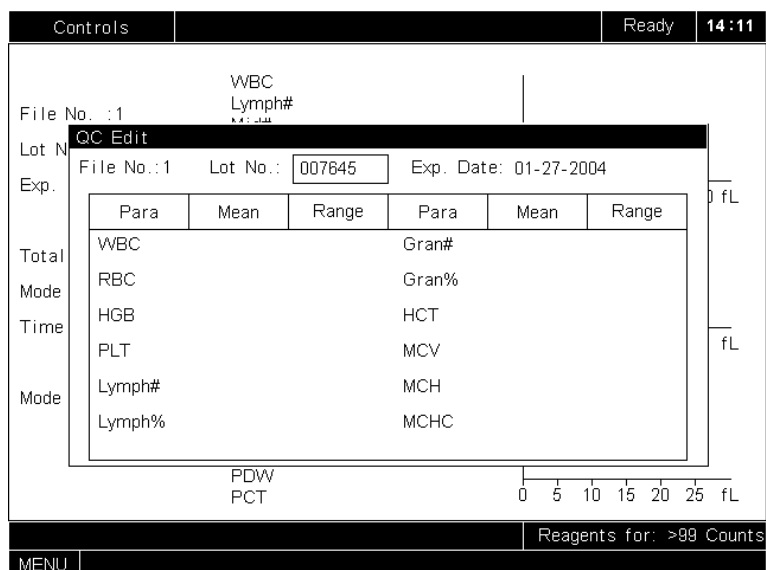

Figure 4-5 Entering **Lot No.**
- A. Press [↑] or [↓] to move the cursor to the edit box, as Figure 4-5 shows.